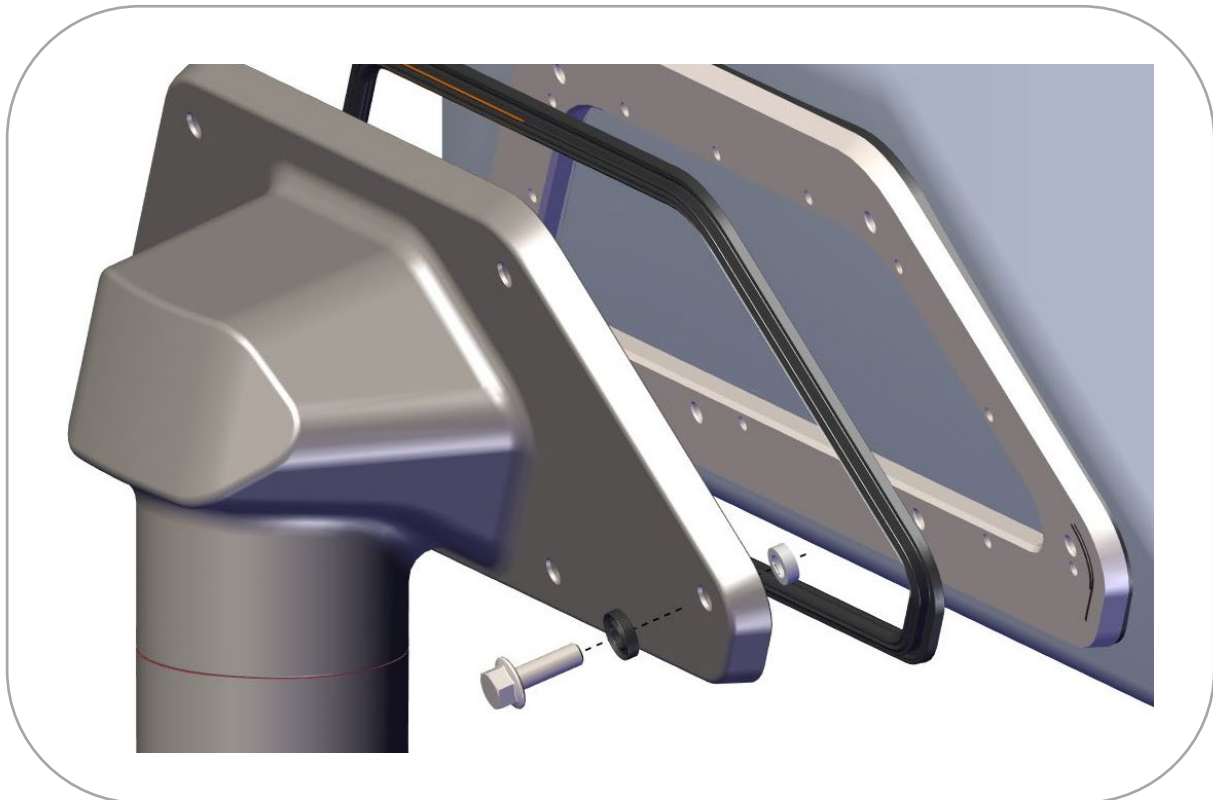

Fig. 42: Overview of seals for the variant with IP69K
- To do so, pull the frame to the side (Fig. 42).